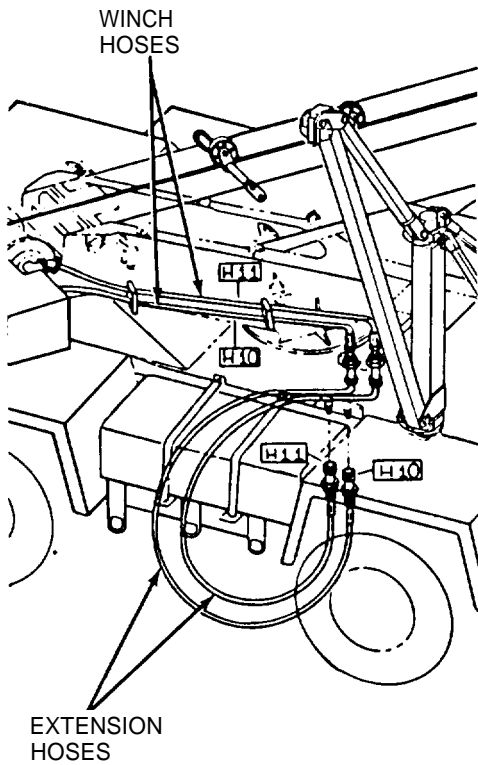

Figure 5-15. *Quick Disconnect Fittings*
b. Disconnect winch extension hoses H-10 and H-11 (Figure 5-15) from both upper-structure and underneath carrier. Do not connect winch lines to rotary manifold at this time. Install dust caps on quick disconnect fittings on valve under carrier.